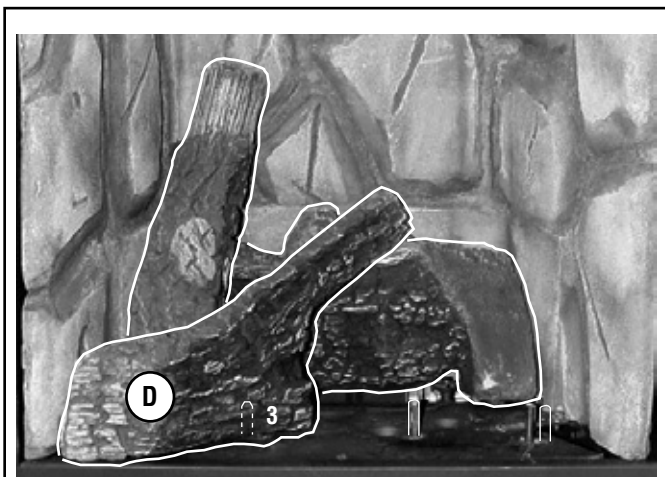

Figure 46 - Install Left Front Log (D)
3. Place the left front log (D) as shown in Figure 46. Position the hole on the bottom of log D over pin # 3.